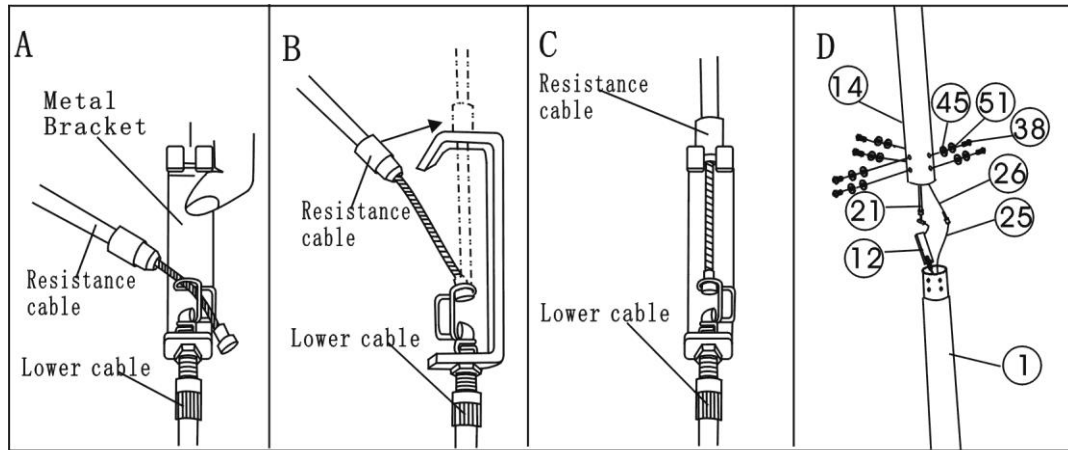

Figure 3
- a. On the lower position of the front upright frame (14), there is the tension control (21). Connect the joint of the tension control (21) with the tension control wire (12) firmly. < Note: at first, please turn the tension control's knob to the bottom of the “-“ direction (in this situation, the joint of the tension control will be extended to the longest)>. Then put the end of resistance cable into the spring hook of Tension control wire (12) as shown on drawing **A** of figure 3.
Pull the resistance cable up and force it into the gap of metal bracket of Tension control wire (12) as shown on drawing **B** of figure3
Connect the resistance cable with the Tension control wire (12) completed as shown on drawing **C** of figure 3. If the upper side of the tension control wire cannot fix perfectly in the gap of metal bracket, please adjust the nut which below the bracket to the suitable position.
- b. Connect the computer wire (26) to the Sensor wire (25) coming out from mainframe (1) as show on drawing **D** of figure3.
- c. Insert the Front upright frame (14) to the main frame (1) and secure it with six pieces of M8 x 20 Bolts (38), Φ 8 Spring washers (51), and Φ 8 Arc washers (45) as shown on drawing **D** of figure 3.